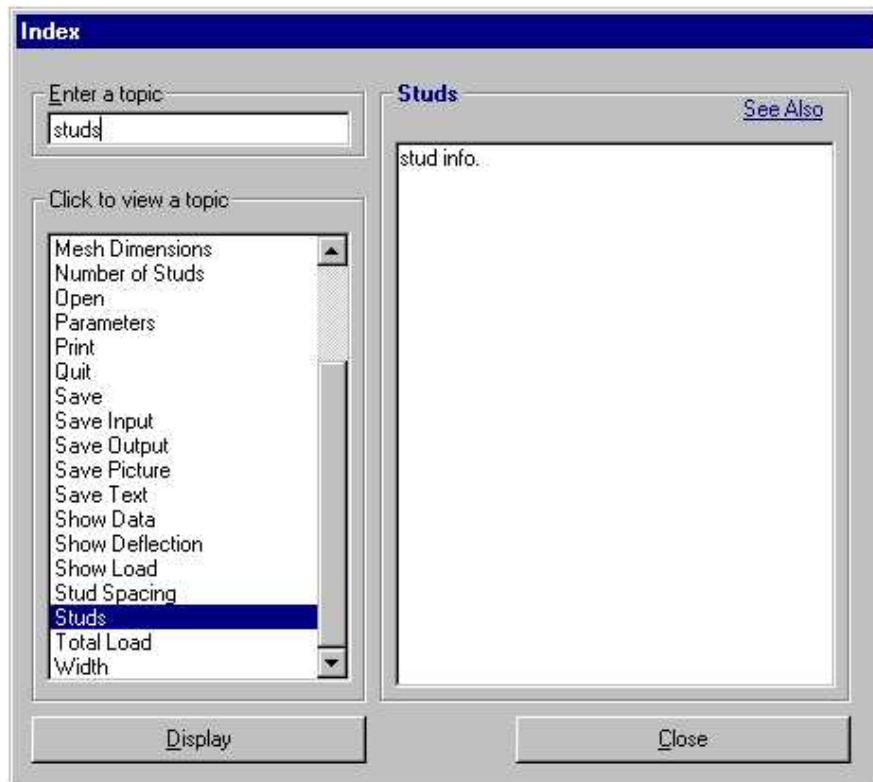

Figure 4.2. Index (eg. studs)
2. Enter the first few letters of the word being searched for in the text box or scroll down the list of topics (Figure 4.2).
If the words See Also (Figure 4.2) in the upper right-hand corner of the screen become highlighted and underlined, click them to view a list of related topics (Figure 4.3).